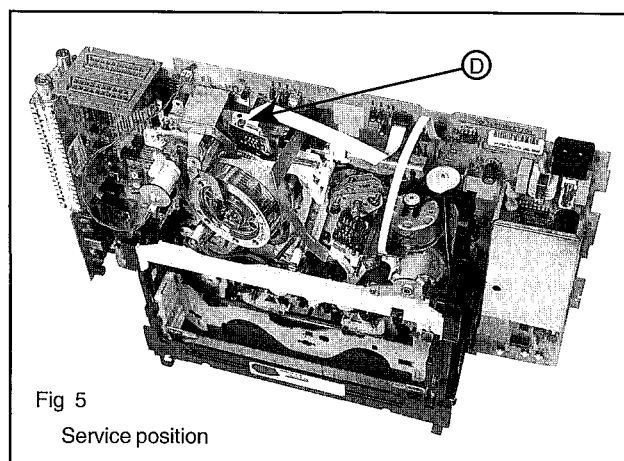
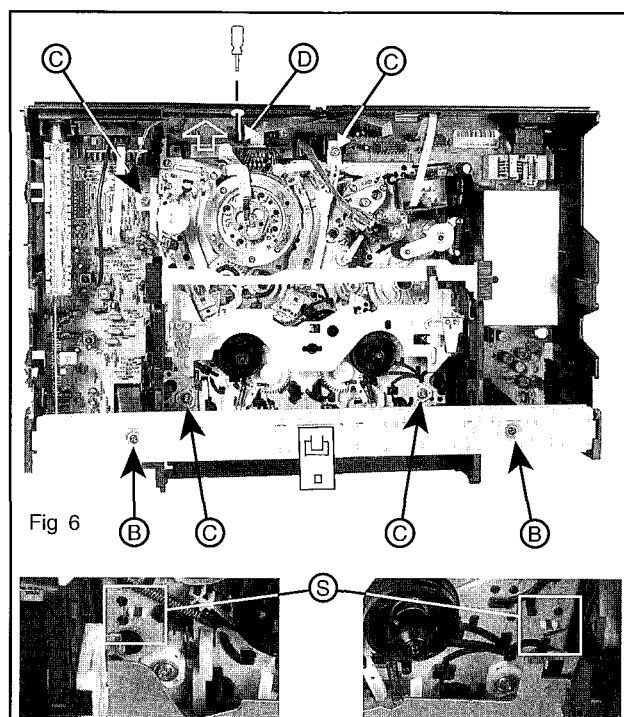

Fig 5
Fig 6
- Undo the two screws (B) of the stay and pull it up to remove it
- Undo and remove the four fastening screws (C) of the drive
- Detach the Cinch socket cable (K) and ground cable (M) from the socket print (if present)
- Undo the 10 catches (S) from the rear right to the rear front and then from the rear left to the front left
- After the weight of the motherboard/drive unit has released it from the frame, the catch (S) at the mains socket has to be released for a second time
- Turn the motherboard/drive unit and move it into the service position (Fig 5), if necessary
- Check that all 10 catches (S) are engaged
- Secure the drive with the four holding screws (C)
- Push the stay onto the frame with the chamfered side facing to the rear and secure with both screws (B)
5. Dismantling the drive (Fig. 3)(Fig. 5)(Fig. 6)